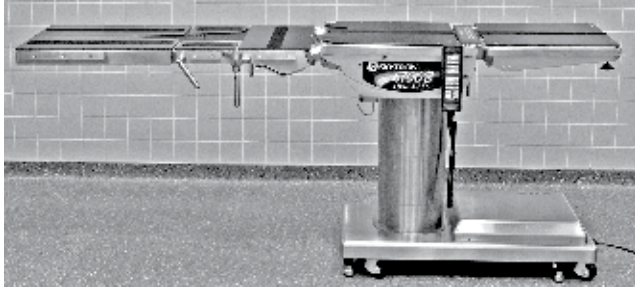

Figure 9. Assemble Remaining Leg Section
8. Repeat Steps 2 through 7 for the remaining intermediate and main leg sections (Figure 9).